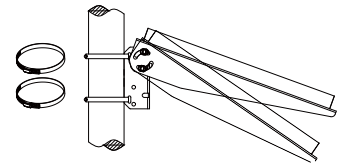

figure 2
Step4. For pole mounting, use the steel clamps to fix the PV module and mount assembly securely to the pole. See figure 2. Attention: U-Bolts and Molly Bolts are not included in the kit.